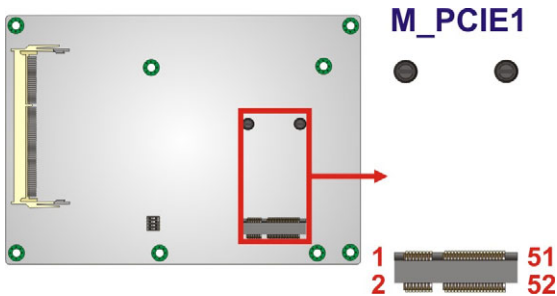

Figure 3-16: PCIe Mini Card Slot Location
- CN Location: See **Figure 3-16**